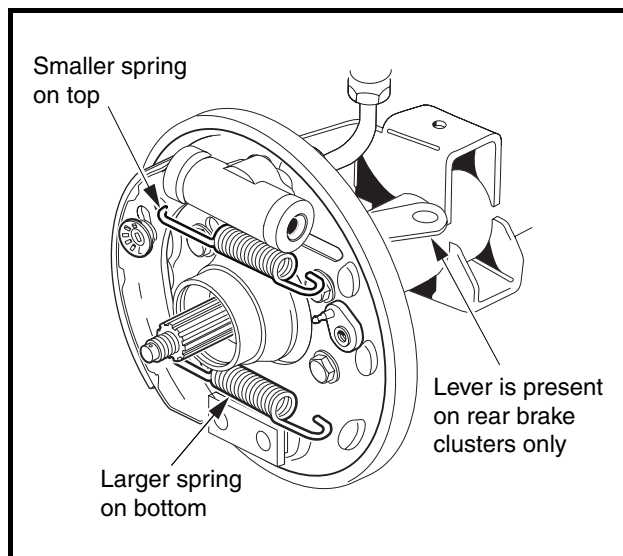

Figure 6-11 Brake Shoe Tensioning Springs
NOTE: This vehicle uses a pair of identical brake shoes in each front and rear brake cluster. Each shoe must be positioned so that the adjuster pin is inserted into the slot of the brake shoe (**Figure 6-11, Page 6-12**).
3. Attach the tensioning springs onto the shoe with the smaller spring on top and the larger spring on the bottom (**Figure 6-11, Page 6-12**).